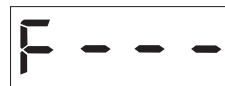

Figure 34. Pressure Adjustment
4. Press the **DOWN ARROW** (↓) button repeatedly until the first digit on the 7-segment display reads "F" (Figure 34).